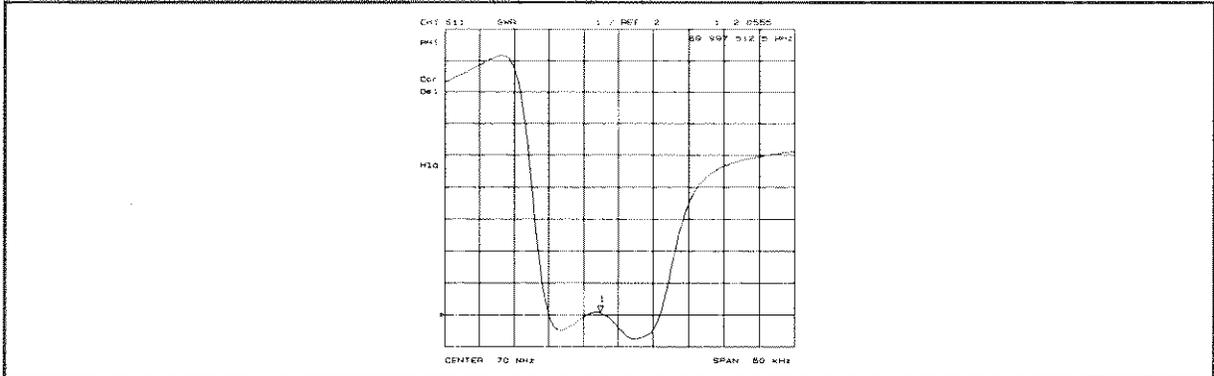

Figure 6-16. Typical SWR Display
**SWR** (SWR) reformats a reflection measurement into its equivalent SWR (standing wave ratio) value (Figure 6-16). SWR is equivalent to  $(1+|\rho|)/(1-|\rho|)$ , where  $\rho$  is the reflection coefficient.